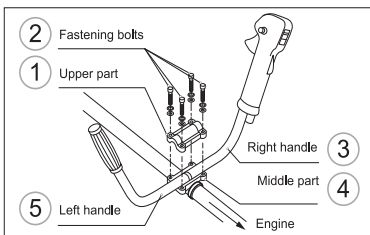

fig. 2
1. Remove the upper part of the handle attachment (1, Fig. 2) by unscrewing 4 screws 2 (Fig. 2). Install the operating handles (3 and 5, Fig. 2). The right-hand grip (3, Fig. 2) is equipped with engine controls, the trigger of the right-hand grip should be directed toward the gearbox.